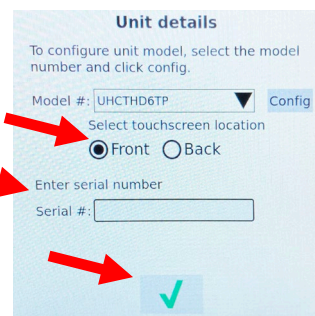

Figure 38
51. Press the Serial # field and use the keyboard to enter the serial number of the cabinet. When finished press the return key and the GREEN checkmark (see Figure 38).